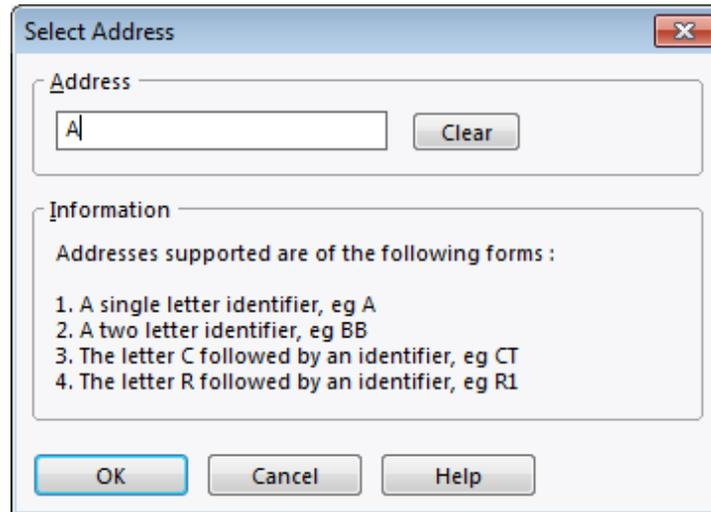

Figure 3.
2. Change the Tag's source to the RLC device; the Select Address popup shown in Figure 3 appears.